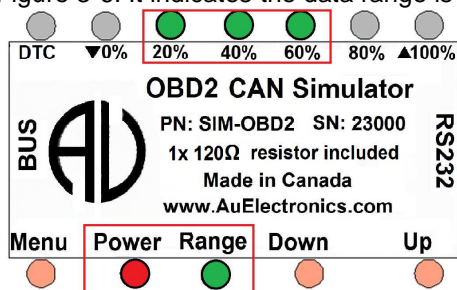

Figure 3-6
- If keep pressing **Up** button, the control step value will keep rising, and the 20%, 40%, and 60% LED will be on, as shown in Figure 3-6. It indicates the data range is from 61% to 79%.